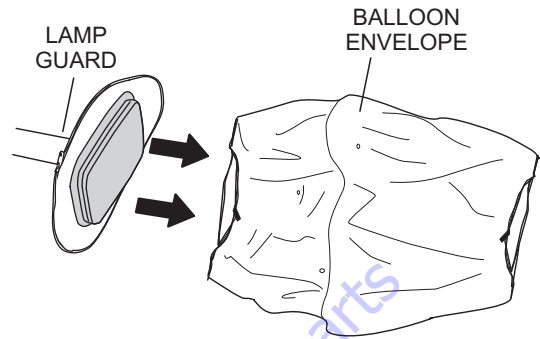

Figure 39. Removing the Balloon Envelope
2. Slide the old or worn balloon envelope (Figure 39) over the top of the lamp guard assembly.